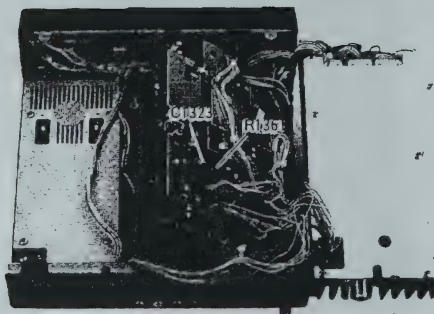

Figure 9: Local Unit Components to Remove
- ☐ Referring to Figure 9, locate capacitor C1323 and resistor R1361 on the board just behind the oscillator housing. Cut the leads of these parts and remove them.